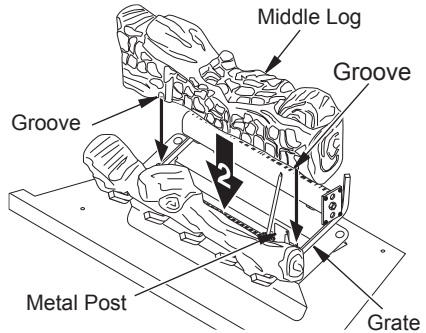

Figure 21 - Installing Middle Log
2. Rest middle log behind metal posts on grate assembly. Make sure the grooves in the bottom of the log fit over the grate. Bring the log forward next to the metal posts (see Figure 21).